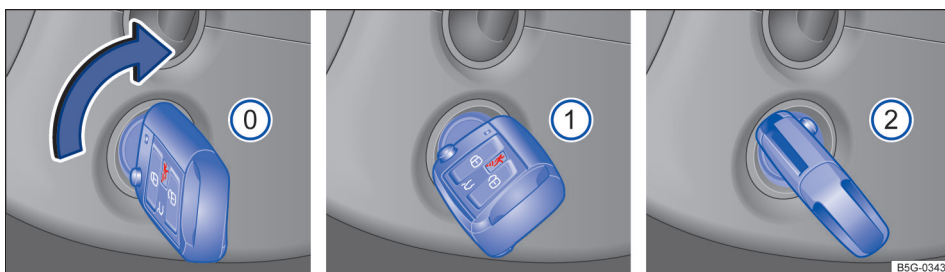

Fig. 96 In the ignition switch: Vehicle key positions for vehicles without Keyless Access.
Vehicle key position → fig. 96
3. *Vehicles without Keyless Access:* Briefly turn the vehicle key to position → fig. 96 ② – do not depress the accelerator pedal.
3. *Automatic or DSG transmission:* Shift the transmission to Park (P).
5. *Vehicles without Keyless Access:* Turn the vehicle key to position → fig. 96 ① in the ignition switch.